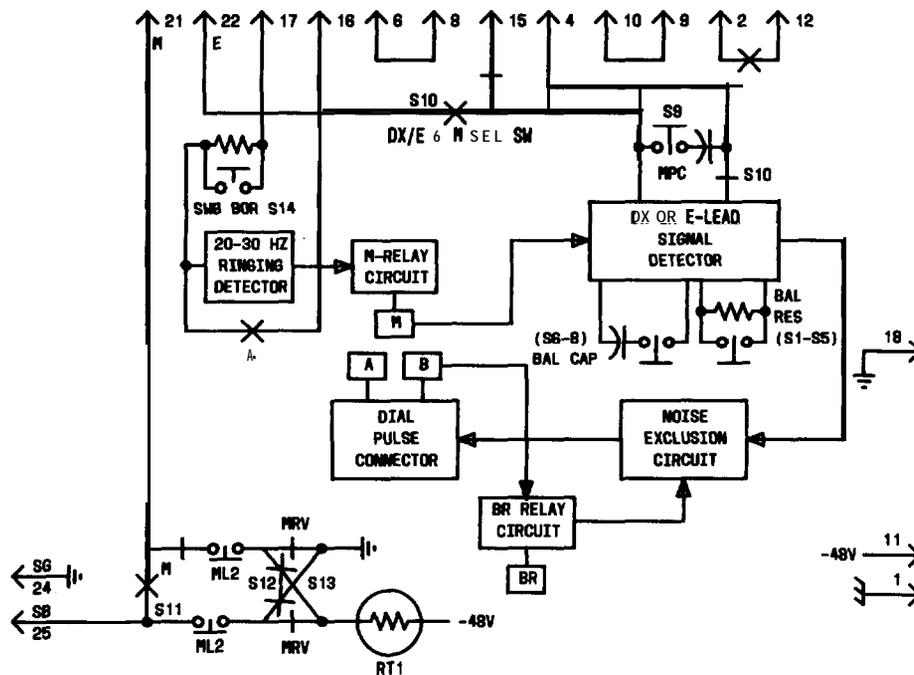
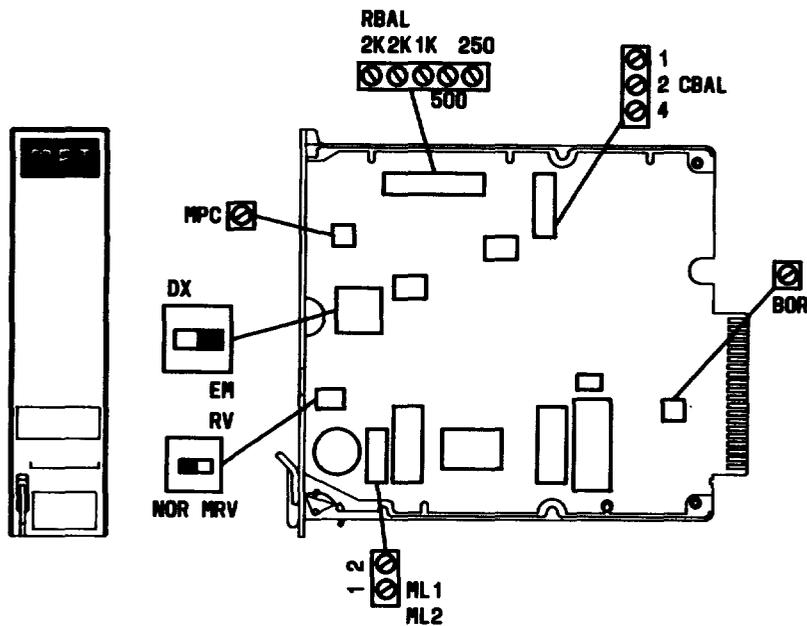

Fig. 1 — J99343FA-1, L2 Block Diagram
Fig. 2—J99343FA-1, L2 Component Layout
The **J99343FA-1, L2** is a loop start to duplex (DX) or E&M signaling converter. The unit is used in conjunction with DX or E&M signaling units at the central office end of a loop start special service circuit. For a detailed description of this unit, see Section 332-911-105, **CD-1C359-01**, and **SD-1C359-01** (CPS 49). A block diagram is shown in Fig. 1 and switch locations are shown in Fig. 2.